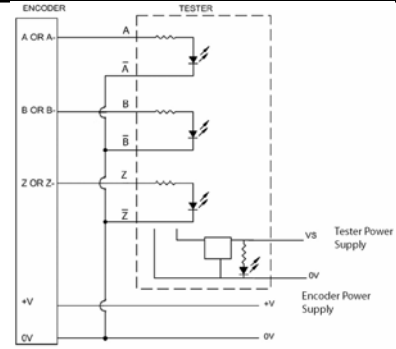

Figure 2
1. Connect the terminals for the encoder tester labeled A-, B-, and Z- to the power supply common from the encoder (See Figure 2).